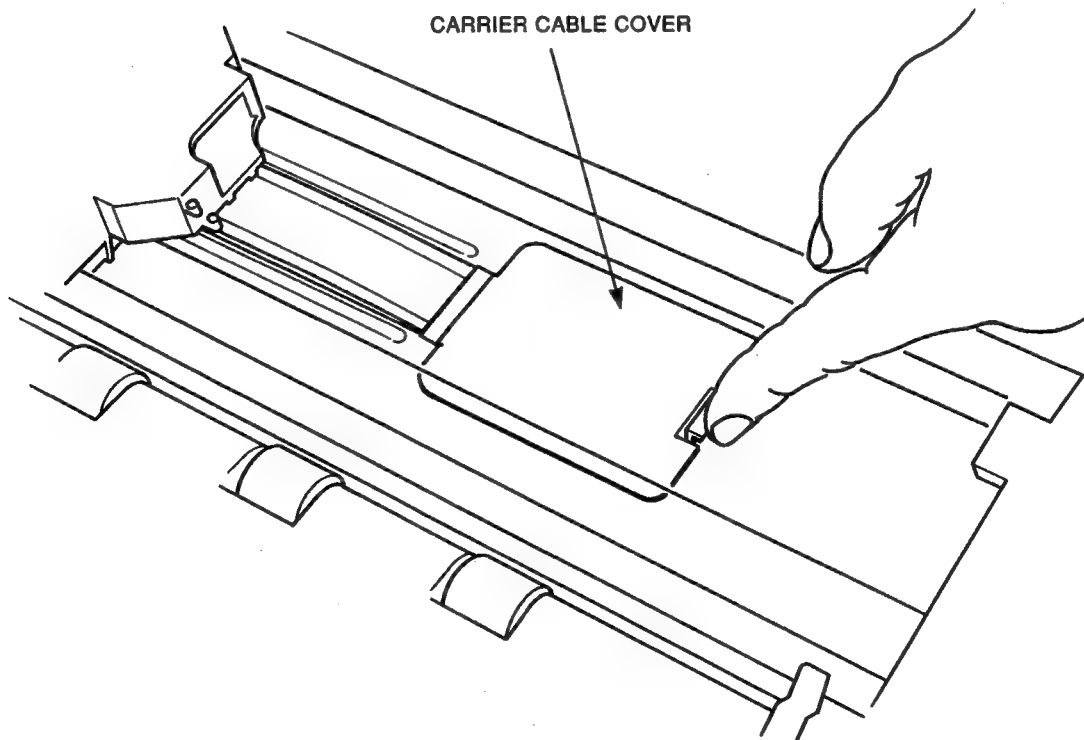

Figure 3-38 Carrier Cable Cover
2. Lift off the carrier cable cover by unlocking the tab (see Figure 3-38).